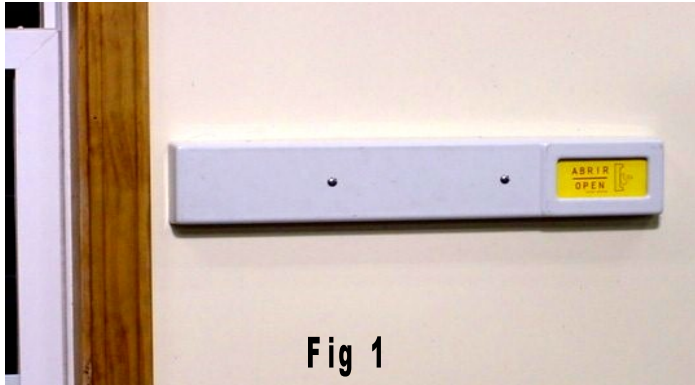
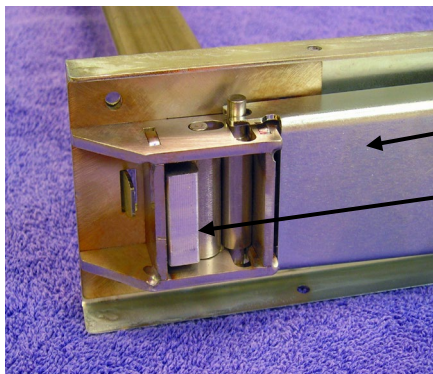
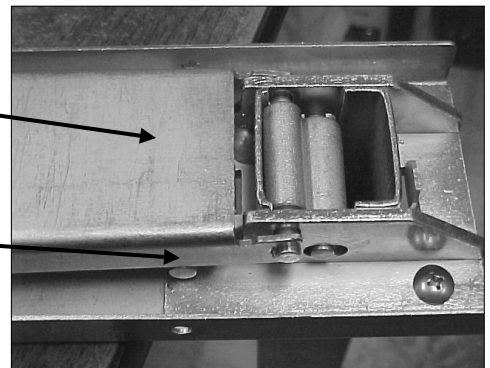

Fig 1
Fig 2
Fig 3
Thanks for purchasing the FastExit Bar Release. Fig. 1 shows what the FastExit will look like installed. Notice that the release operator (yellow) is located about 20 inches [50cm] from the edge of the window. This makes it more difficult for an intruder to open the bars by breaking the window and reaching in. If curtains are part of the décor, the curtains will generally be inboard of the release operator allowing it to be easily visible to those in the living environment.
Pressing the (Open) sign on the Release Lever Fig 1 will cause the Latch Block Fig 2 [2] to be released from its captured position Fig 2 [2].
Pressing the release lever Fig 2 and Fig 3 (1) allows the lock pin Fig 3 [3] to drop (by gravity) forcing the release lever [1] to stay (up) open, even when the lever is released. This serves three purposes.
Fig 15 Install the release lever by placing the spring (8) on the threaded standoff away from the window Fig. 15. Guide the forks Fig 2 (6) of the release lever (15) onto the latch roller Fig 2 (1) and over the standoffs. Depress the spring until the clevis pin (4) can be fed through all 4 holes. Clip the hair pin (7) into the hole of the clevis pin Fig 16.
Fig 18: If this is your first installation, you might want to use a small screwdriver to exercise the lock pin Fig 3 (4). This will familiarize you with the purpose of the lock pin and how it interacts with the release lever (15) using gravity. The lock pin can be defeated with
Fig 20: Slide the latch block and cable into the tube with the lock tongue side toward the window side. Have someone depress the release lever so that the tongue will be able to move past the latch bearing roller Fig 2 (2). You will be able to see the end of the latch block as shown in Fig 2. With the latch block in place, use a small screwdriver or large paper clip to release the release lever (15) and "set" the lock. Just to be sure the latch block is locked, pull on the cable protruding from the tube, just to make sure it is locked. **CAUTION !- YOU WILL PROBABLY CUT THE CABLE OFF TOO SHORT IF THE LATCH BLOCK IS NOT FULLY IN AND LOCKED !!**
Setting the release: It is wise to set and release the unit a few times before installing the inside cover for the last time Fig 26. To “Close” the bars, press the “Open” lever until it stays locked open by the lock pin Fig 3 (4). Bring the bar closed. If it resists closing, press further on the “Open” lever until it is fully closed. Using a small screwdriver, push up on the lock pin until the lever snaps into the “closed position”